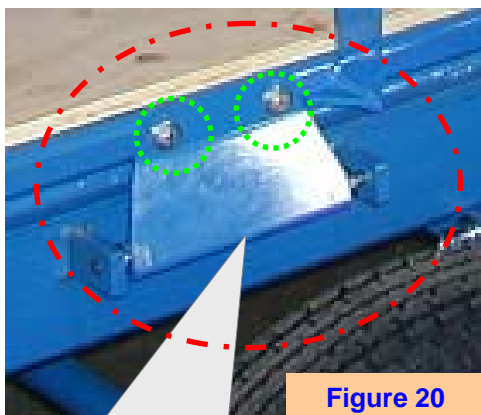

Figure 20
- Position carriage over the axel and secured in place by aligning the holes of the hinged frame bracket to those on the carriage head frame and inserting two (2) bolts through the aligned holes. Tighten firmly with lock washers and nuts (**Figure 20 & 20A**).